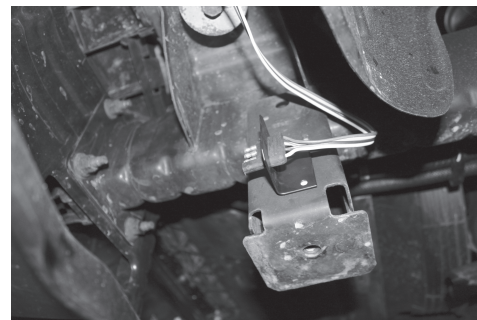

Figure 6
11. Locate the front frame rail that goes across the front of the vehicle. Locate a suitable position to mount the 4-Flat bracket shown in **Figure 6**. Using the bracket as a template mark the two holes and drill two 3/32" holes and attach the bracket using the two remaining screws.